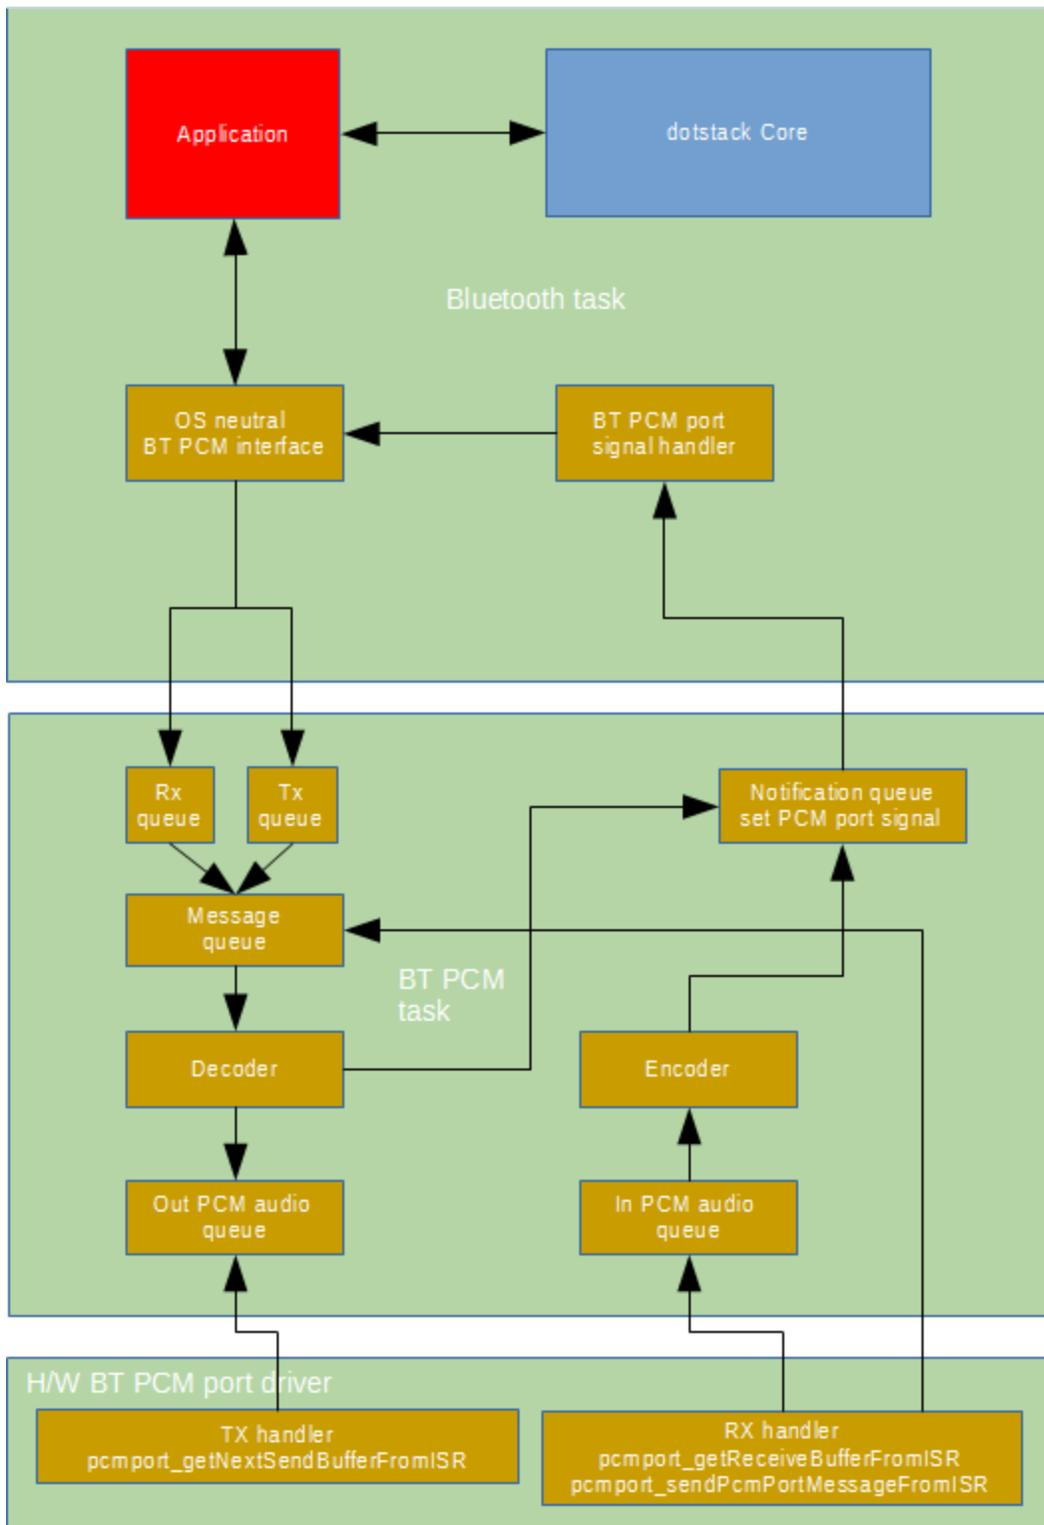

Figure 4
- OS-specific PCM port interface (BT PCM task in Figure 4)
- Hardware-specific PCM port interface (H/W BT PCM port driver in Figure 4)